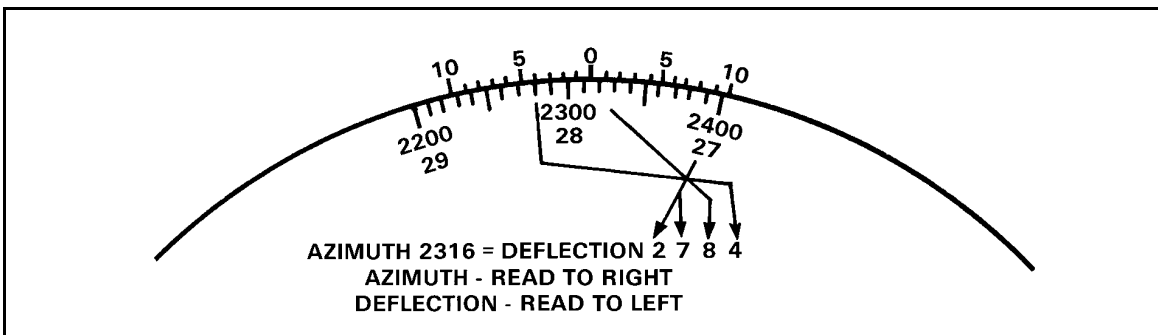

Figure 12-3. Determination of the deflection.
(5) *Determination of firing data.* After plotting the first round on the DOF at the determined range and superimposing the deflection scale, the computer rotates the azimuth disk until the first round is over the vertical centerline. He determines the deflection to fire the first round by using the deflection scale and the left portion of the vernier scale (Figure 12-3).